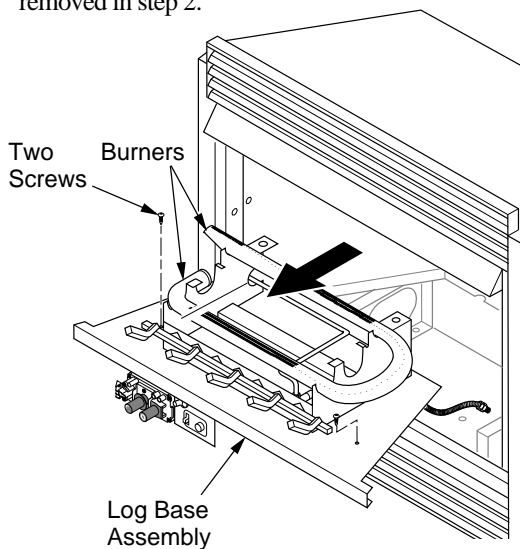

Figure 19- Removing Log Base Assembly From Fireplace
2. Remove screws that attach log base assembly to fireplace insert (see Figure 19, page 12). Carefully lift up log base assembly and remove from fireplace insert (see Figure 19, page 12).